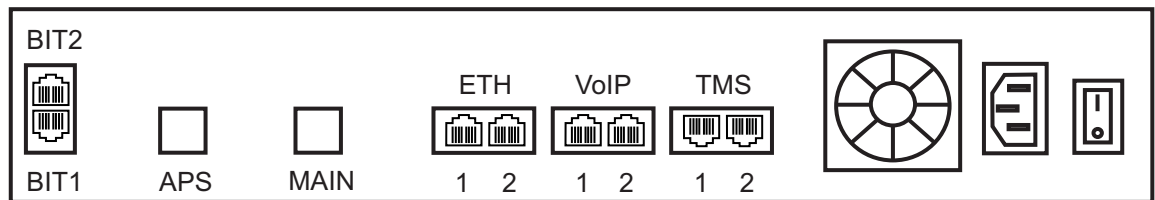

Figure 2.11 Optical Interface to the PSTN
A TMP6400, with one main and one backup OC3 or STM-1 port enables connection to OC3/STM-1 lines. See figure 2.11 on page 22. Refer to table 2.2 on page 22 for a listing of optical interfaces. The default OC3/STM-1 connection is SMF, intermediate reach, (SFP-OC3-IR1) 1310 nm with LC type connectors.
1. Connect a fiber optic cable between the Main port and OC3/STM-1 line, as shown in figure 2.11 on page 22.